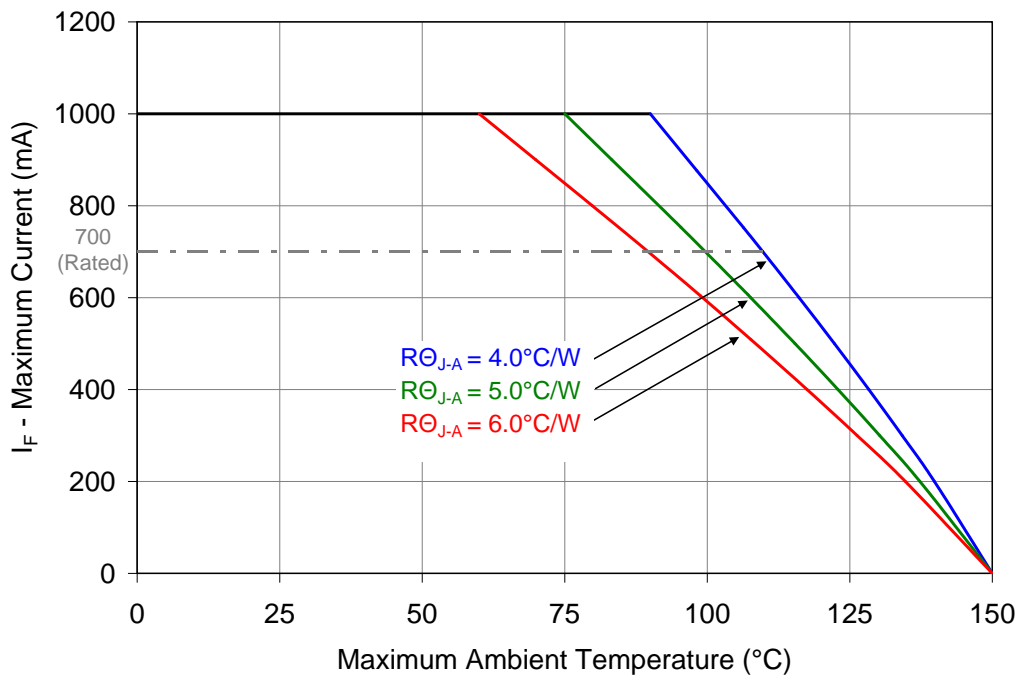

Figure 11: Maximum forward current vs. ambient temperature based on $T_{j(MAX)} = 150^\circ\text{C}$.
- Maximum DC forward current (per die) is determined by the overall thermal resistance and ambient temperature. Follow the curves in Figure 11 for current derating.
Notes for Figure 11: